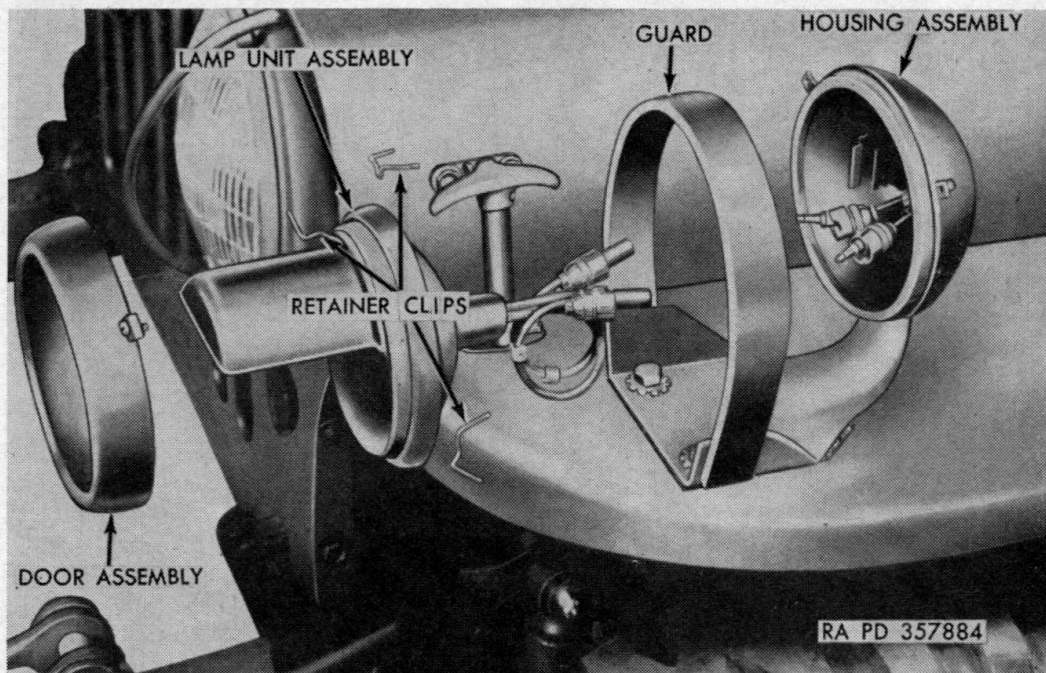

Figure 59. Black-out driving lamp unit replacement.
- (3) *Black-out driving light*. Black-out driving light (fig. 59), mounted on the forward section of the left fender, is a waterproof, sealed beam type. The black-out driving light is controlled by light switch (par. 216c) and furnishes a diffused, low intensity light.
(Fig. 59)